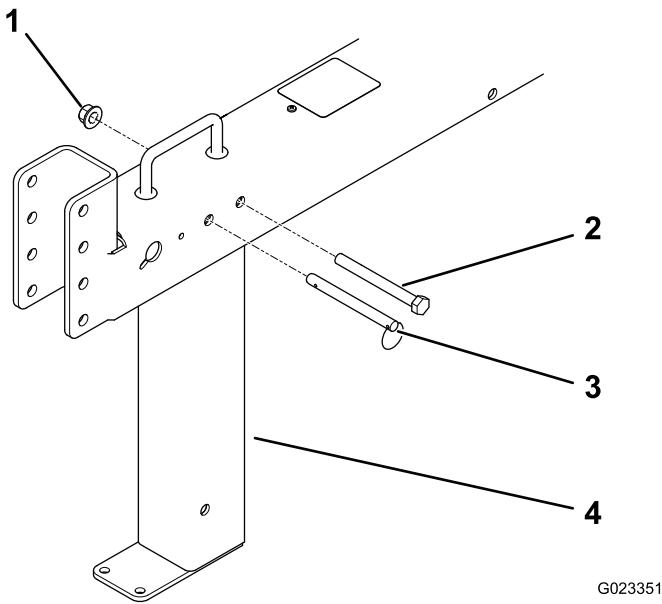

Figure 4
- Align the top rear hole in the front stabilizer leg (Figure 4) to the rearmost hole near the handle at the front of the tow pole.
- Install the long bolt through the holes, and secure it with a locknut torqued to 102 N·m (75 ft-lb); refer to Figure 4.
- Insert the clevis pin (Figure 4) to lock the front stabilizer leg in position.